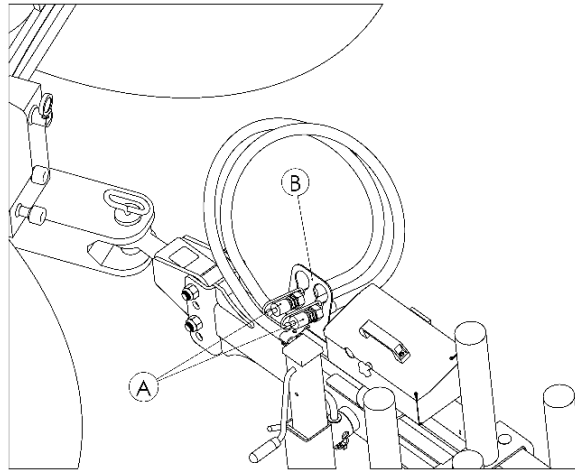

Figure 4. Hydraulic conductor clamp
- Disconnect the power hydraulics system and protect the hydraulic hoses in their clamps on the wrapper drawbar (**Fig. 4 – B**).
Hydraulic connections must always be kept clean. After use reinstall plastic cover supplied at purchasing the machine (**Fig. 4- A**).